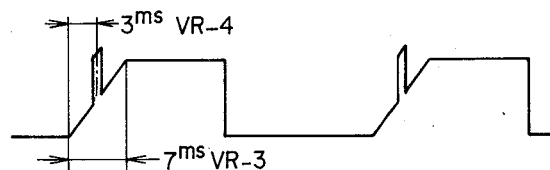

Fig. 7
- (5) Connect Oscilloscope to Test Point TP-3. Adjust VR-3 (10 k Ω B) so that the Trapezoid Wave Ramp Slope is 7 ms as shown in Fig. 7. Further, adjust VR-4 (30 k Ω B) so that the Phase Control Sampling Pulse is 3 ms away from the rise-up point of Trapezoid Wave (Fig. 7).